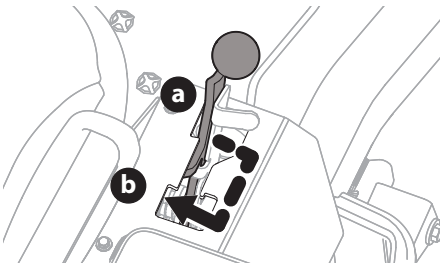

Fig. 21
3. Engage the parking brake by placing drive control pedals in neutral, pushing the park brake lever to the right out of the "off" position (a) and pulling the lever back until it locks into the "on" position (b) (Fig. 21).